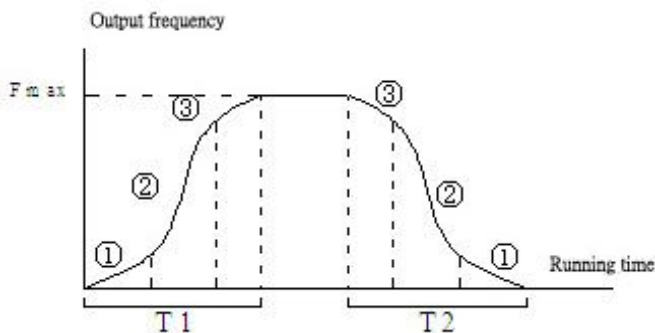

Fig. 6-6 S curve Acc/Dec
In Acc/Dec process, the relationship between output frequency and Acc/Dec time is nonlinear. The output frequency increases or decreases according to the S curve shown in Fig. 6-6.
S curve start time is shown in Fig. 6-6 as ①, which is the stage when the slope of output frequency rises gradually.
S curve rise time is shown in Fig. 6-6 as ②, which is the stage when the slope of output frequency maintains phase.
S curve end time is shown in Fig.6-6 as ③, which is the stage when the slope of output frequency decreases to zero.